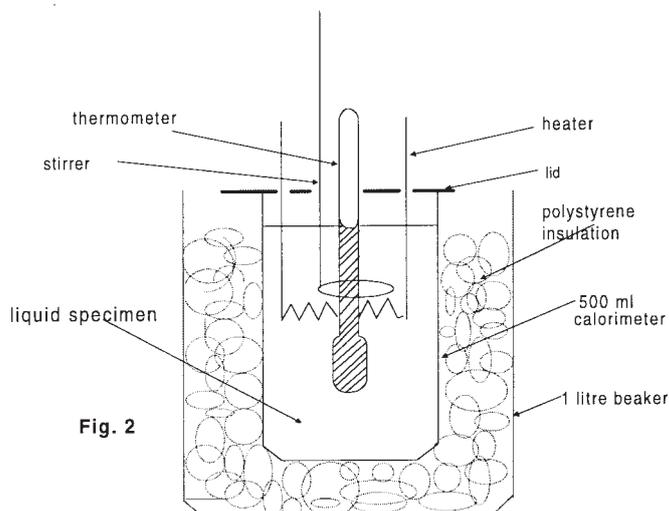

Fig. 2
- 3.5 Set up the calorimeter as in Fig. 2.